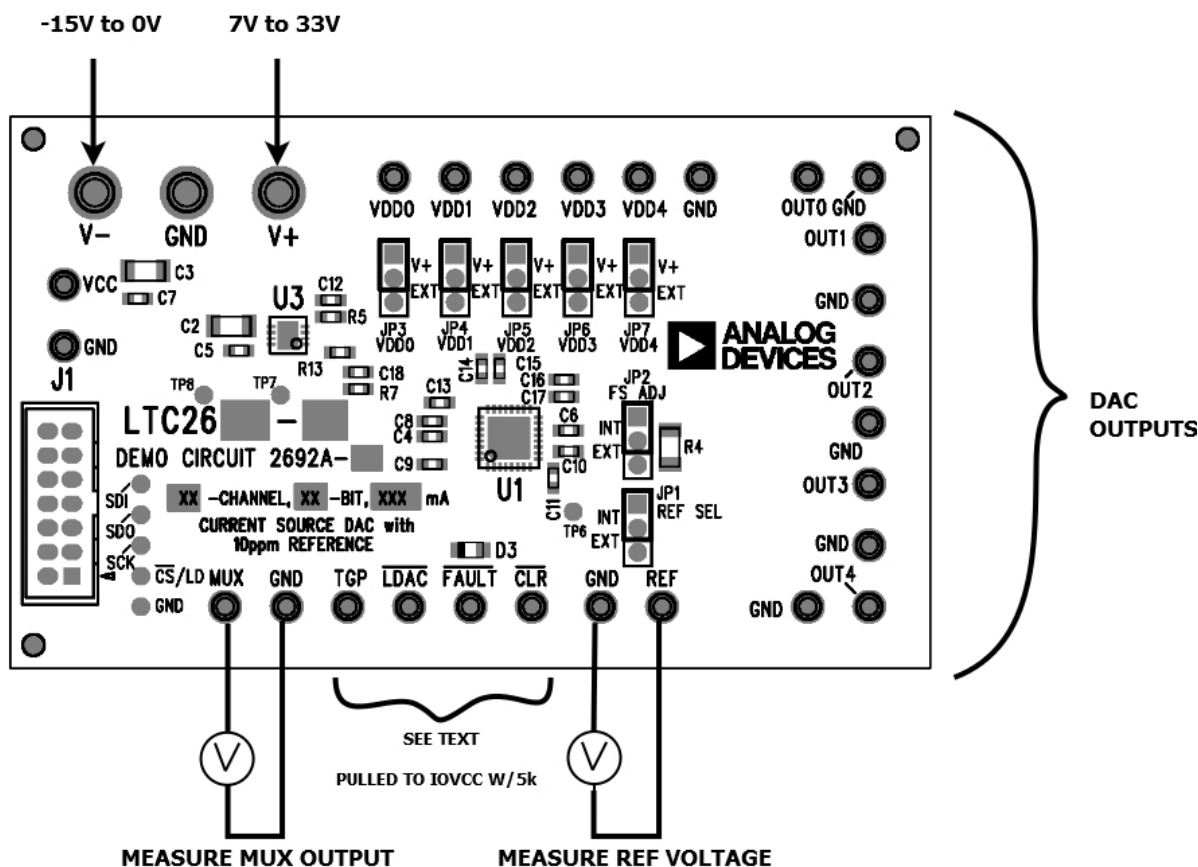

Figure 1. Connection Diagram
3. Connect low noise analog power supplies as shown in Figure 1. Refer to the data sheet for other supply options.